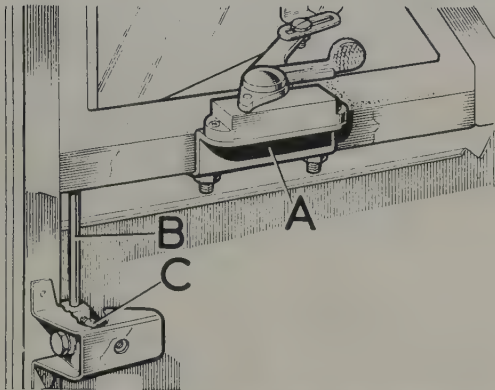

Fig. 12.27. Rear quarter light attachment (opening type)
- 4 Slacken the pinch bolt that secures the bottom of the quarter light spindle located as shown in Fig. 12.27.